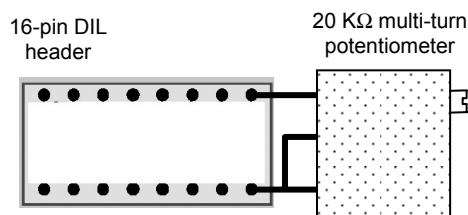

Figure 9 - 20 K Ω potentiometer on DIL header
2. Solder two of the potentiometer legs (centre and one side) to one side of the DIL header, and the other leg to the other side, refer to figure 9 below.